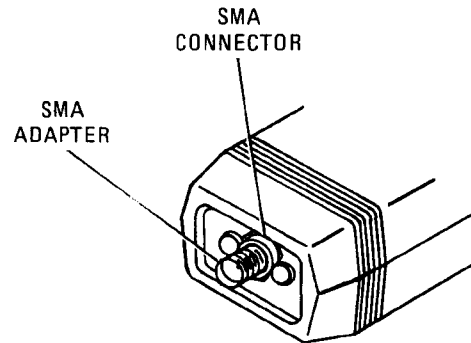

Figure 16. SMA Adapter Location
4-7. The HP 11941A contains no internal user-accessible adjustments or parts. The SMA adapter (see figure 16) is the only external replaceable part.
5-2. The SMA adapter located at the end of the probe is the only replaceable part on the HP 11941A (see figure 16). It protects the probe's integral connector from mechanical damage and should be left on. Should the end of the adapter become worn or damaged through use, it can be replaced using the procedure outlined in paragraph 5-3.
1. Use a 7/32-inch wrench to remove the old SMA adapter (see figure 16). Turn the adapter counterclockwise as viewed from the rear end of the probe.